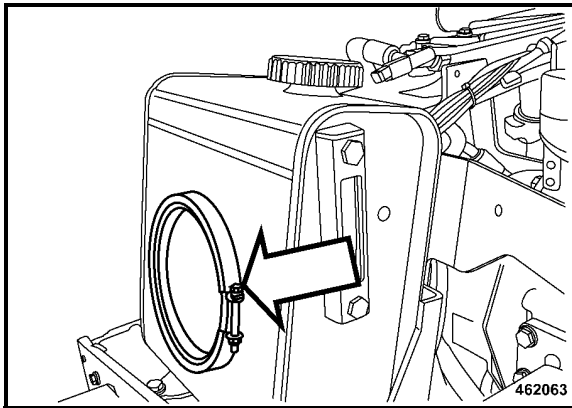

Fig. 157
- Loosen the strap (Fig. 157) on the hydraulic oil tank and take it off with the cover.